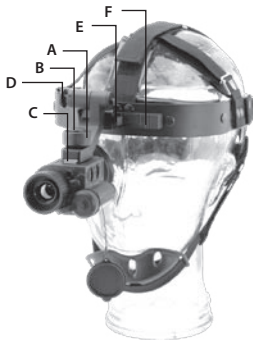

FIGURE 3-3. MOUNTING THE Q14 TO AN ARMASIGHT GOGGLE KIT
2. Loosen the screw (A). While pushing down on the button (B), insert the Q14 rail into the guide (C) of the goggle kit bracket. Tighten the screw (A).
4. To adjust the equipment for greater comfort, loosen the screw (A) and move the unit along the guide (C).
5. The goggle kit has a flip-up mechanism. Push the button (D) of the goggle kit bracket and lift the unit up until it reaches its topmost position.
6. Push the same button (D) to lower the unit into the correct viewing position.
Figure 3-3 shows the Q14 in the correct position for the right eye. To readjust the unit for the other eye, remove the unit from the goggle kit bracket. Turn the unit around (180°) and mount it on the bracket through the rail on the second side. While pushing down on the button (E), move the unit along the slide-rail (F) until the desired, most comfortable position is reached.